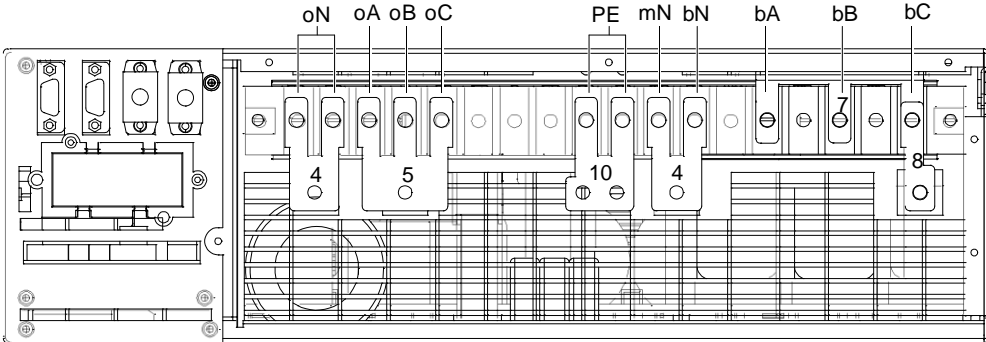

Figure 2-14 Shorted copper bars connection for UPS I/O terminal block
2. Short two PE terminals of the UPS I/O terminal block using the shorted copper bar 10 with an insulating film, short bA, bB and bC terminals using the shorted copper bar 7, and short oA, oB and oC terminals using the shorted copper bar 5, and then short mN and bN terminals, two oN terminals using two shorted copper bars 4, as shown in Figure 2-14.
4. Connect the shorted copper bar 8 to one end of the shorted copper bar 7 (see Figure 2-14), and connect the live line (bypass phase A) to the shorted copper bar 8.